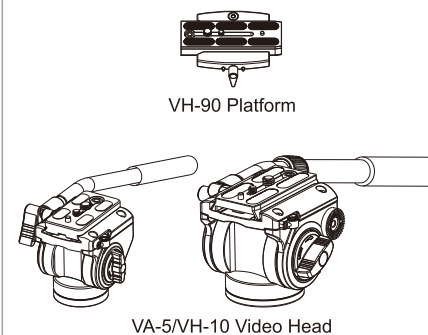

Figure 11
6. SIRUI VH-90 Quick Release Platform and VA-5 or VH-10 Video Head are available separately (Figure 11).